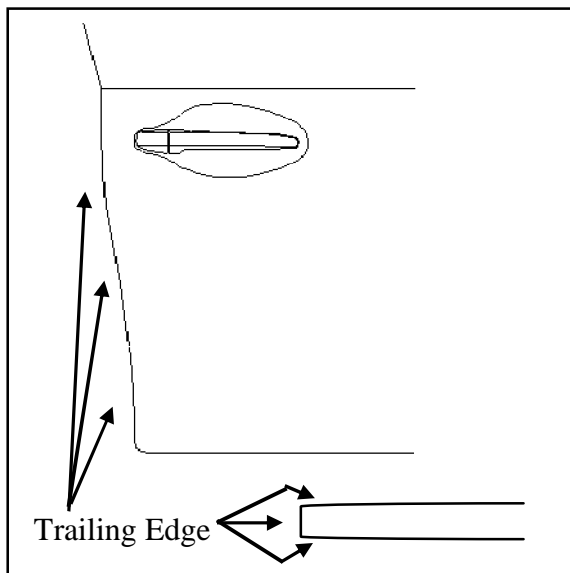

Fig. 1-10
- i. Spray 3~4 pumps of Simple Green onto lint free towel and pinch the wet towel between your thumb and forefinger while running along the length of the door edge to clean the inside and outside of the trailing edge of door. Make several passes to ensure the wax and oil has been removed. (Fig. 1-10)